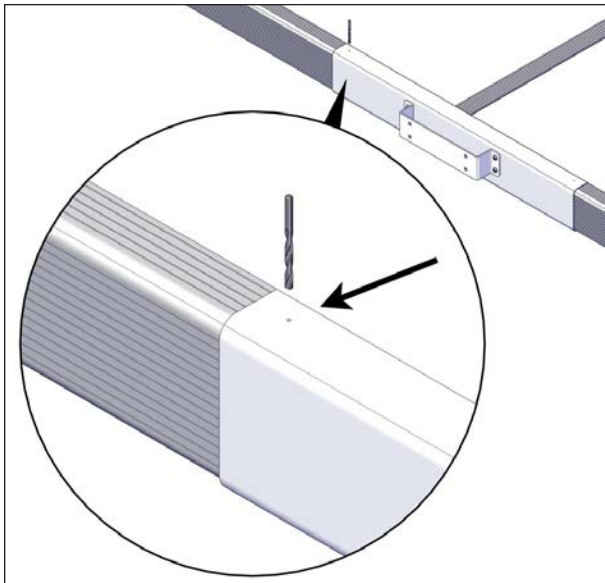

FIGURE 67: HOLE DRILLING THROUGH THE C-CHANNEL
6. Use the provided 5/32" drill bit to drill the holes on the top and bottom of the support bracket see Figure 67. Use the pre-drilled holes in the support bracket as guidance.